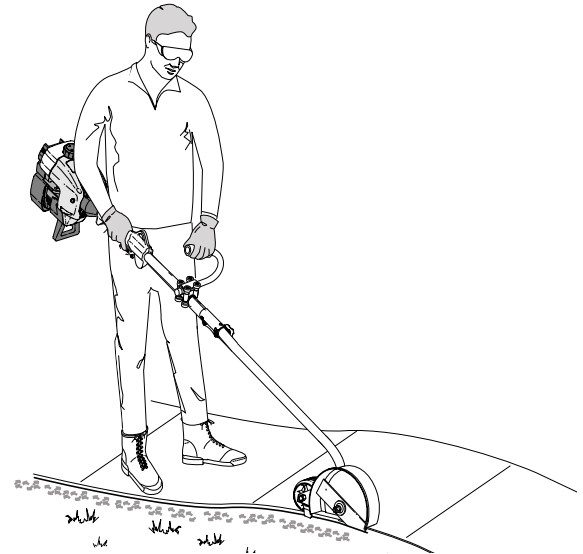

Fig. 13
Before operating the unit, stand in the operating position (Figs. 13). Check for the following:
- The edger wheel adjusted for proper cut depth and edger positioned as shown in Fig. 13.